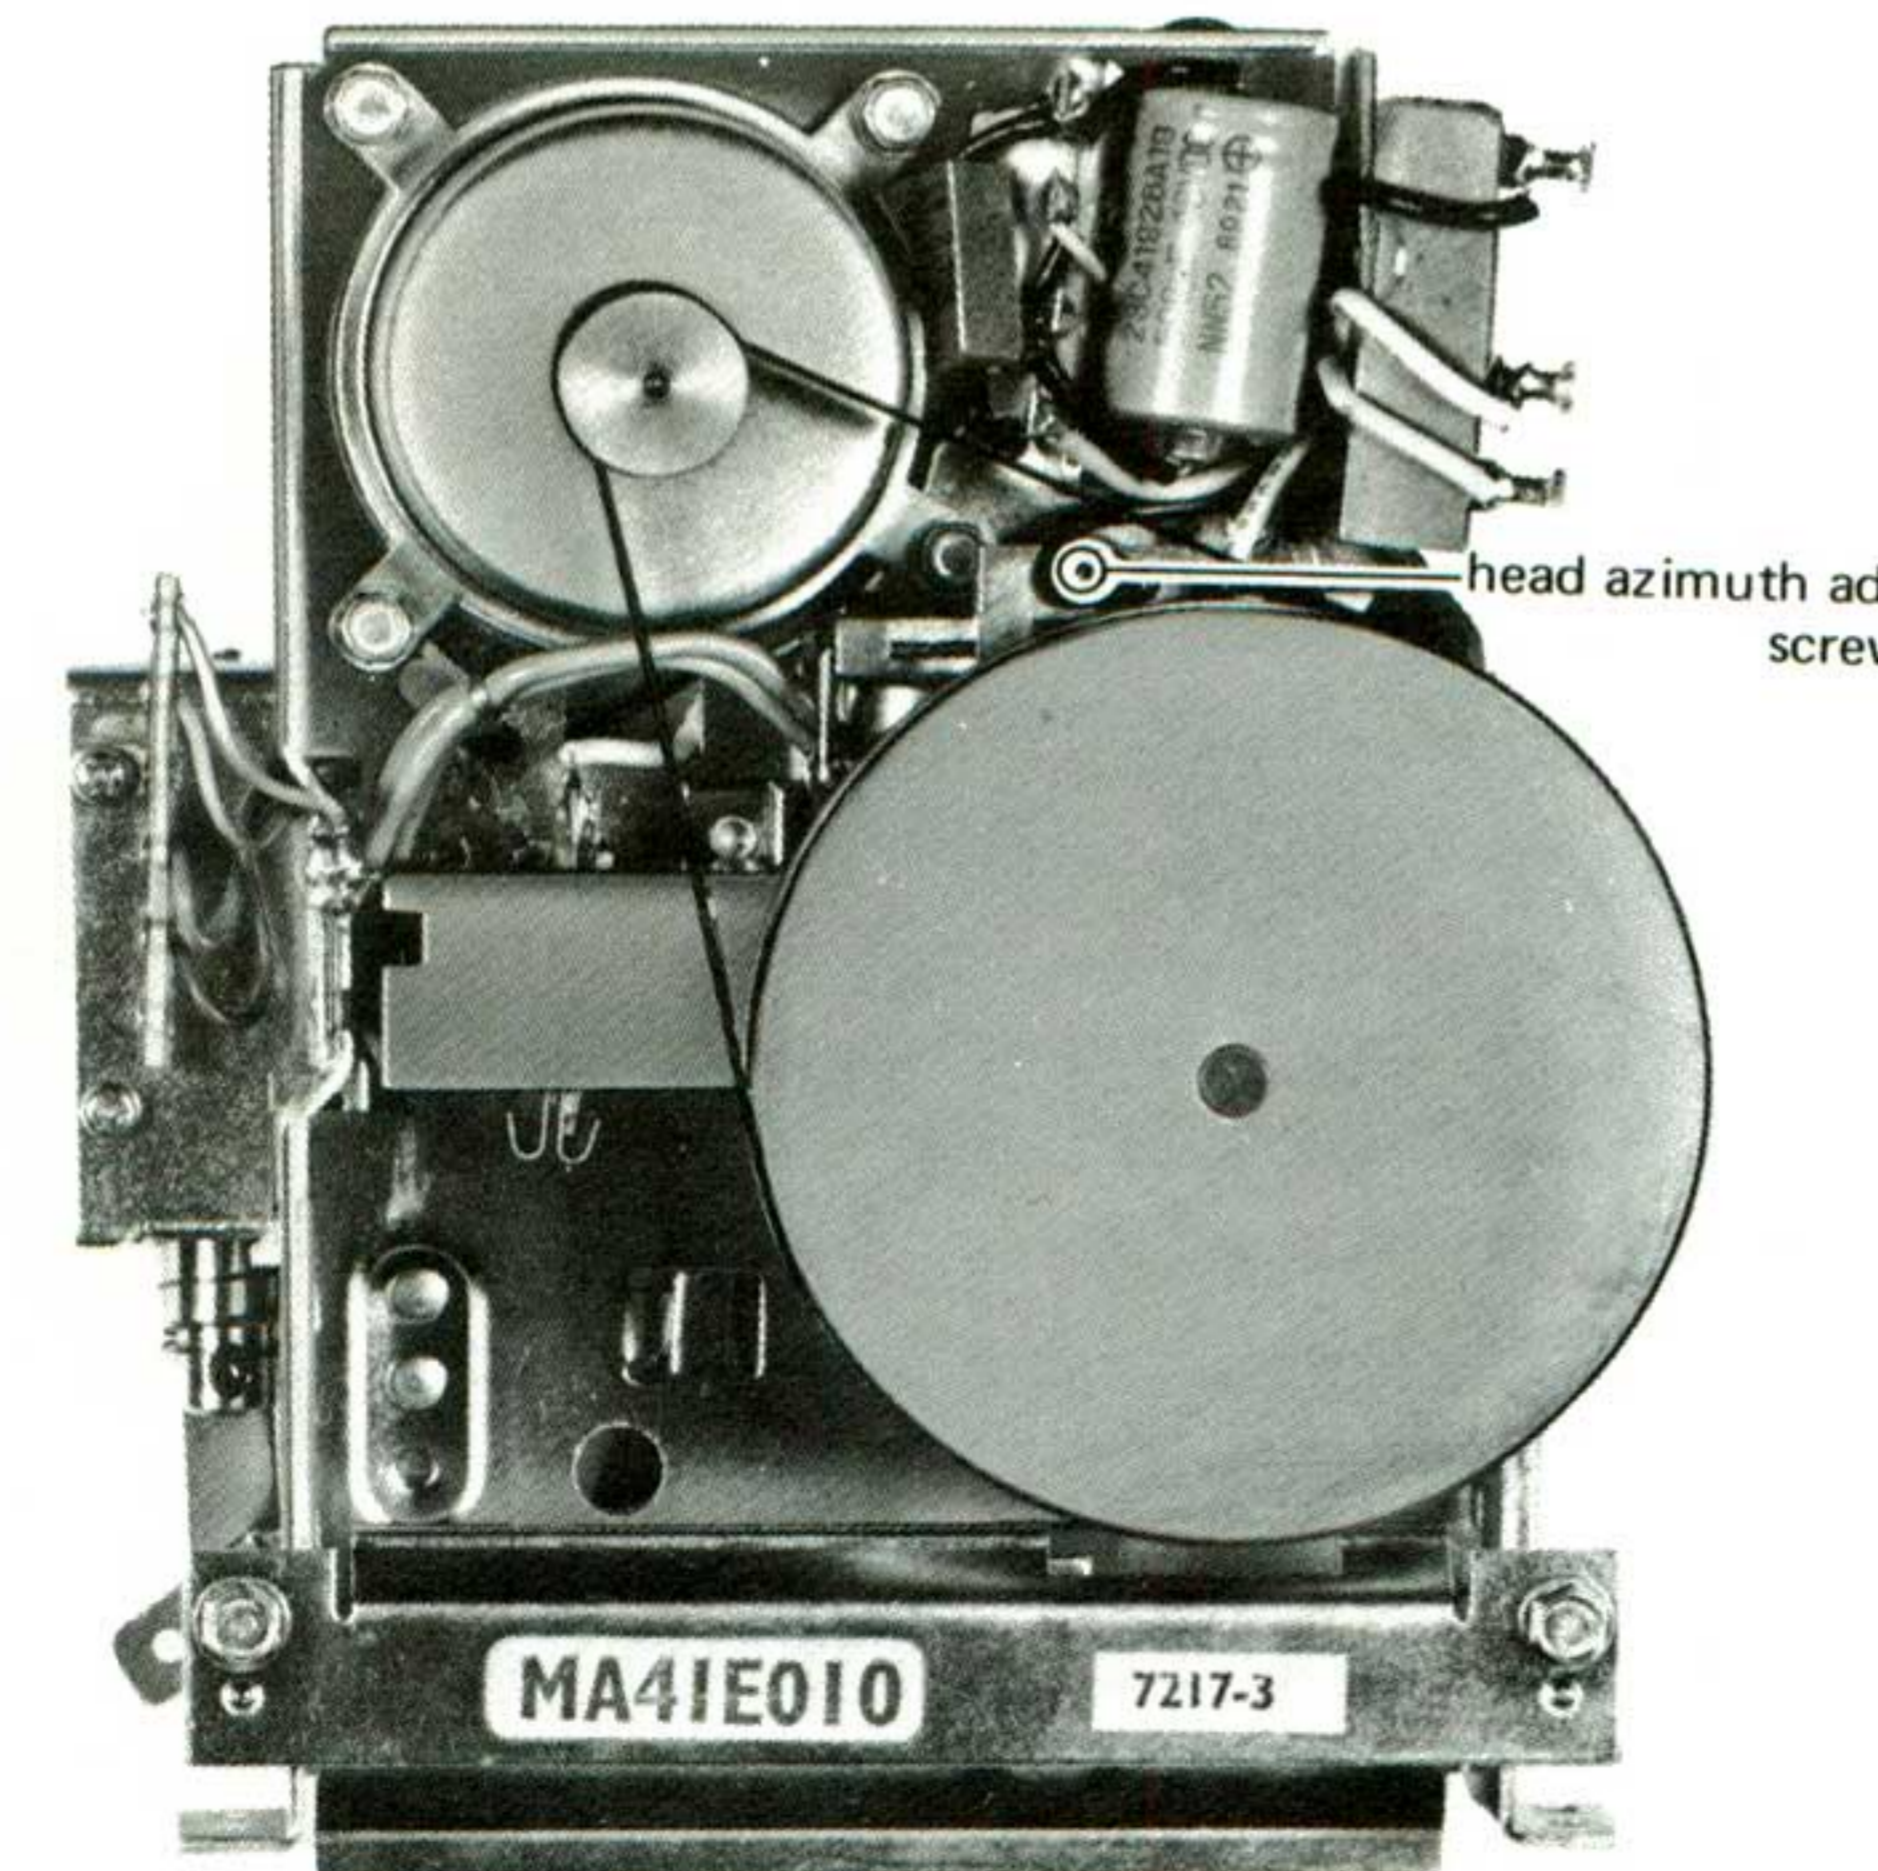

Fig. 4
- Fig. 4 Adjusting parts locations – head deck top view –